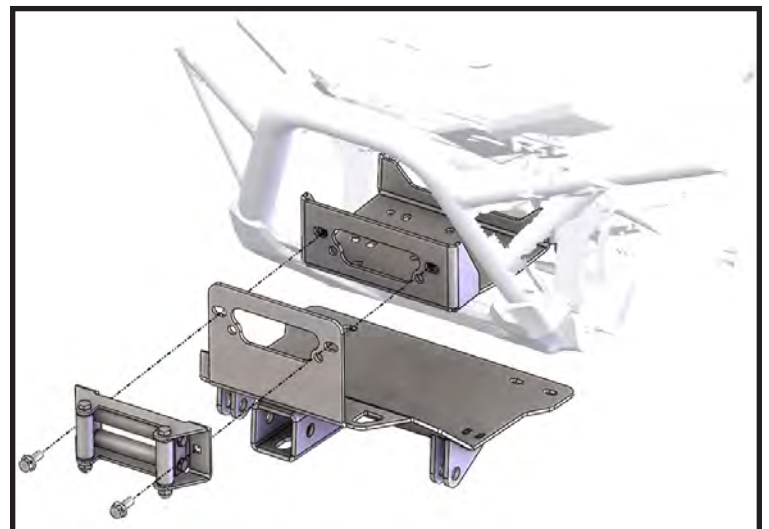

Figure 3: Install to winch mount.
2. Remove bolts (B) from lower portion of front bumper shown in **Figure 3**.
5. Set mount brackets (5&6) along with rear frame spacers (4) inside of frame and loosely secure to holes (D) in frame using bolts (7.2) and nuts (7.3) as shown in **Figures 3 & 4**. *NOTE: Bolts will go through larger outside frame holes.*
6. Set nut plate (2) in frame lining up holes in nut plate (2) with holes (E) in the frame as shown in **Figures 3 & 4**.
"Figure 3" Install to winch mount.
“Figure 3” Pitch Adjustment Bolt
Note: *Figure 3 shows the default pitch position and is recommended for proper blade level.*